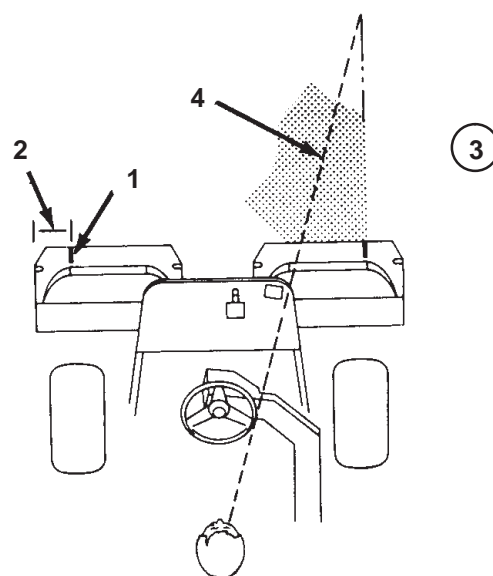

Figure 23
2. Either place a strip of white tape or paint a line onto each basket paralleling the outer edge of each basket (Fig. 23).
3. Overlap a minimal amount with the previous cut on return passes. To assist in maintaining a straight line across the green and keep the machine an equal distance from the edge of the previous cut, establish an imaginary sight line approximately 6 to 10 ft. (1.8 to 3 m) ahead of the machine to the edge of the uncut portion of the green (Fig. 23 and 24). Some find it useful to include the outer edge of the steering wheel as part of the sight line; i.e. keep the steering wheel edge aligned with a point that is always kept the same distance away from the front of the machine (Fig. 23 and 24).